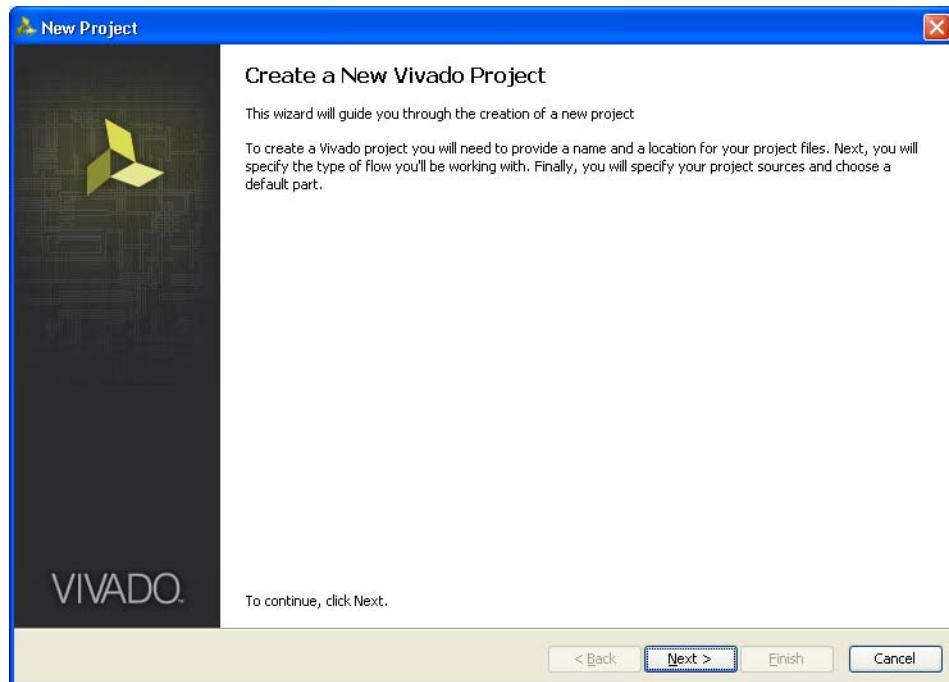

Figure 4-2: Create a New Vivado Tool Project
2. To create a new project, click the **Create New Project** option shown in Figure 4-1 to open the page as shown in Figure 4-2.